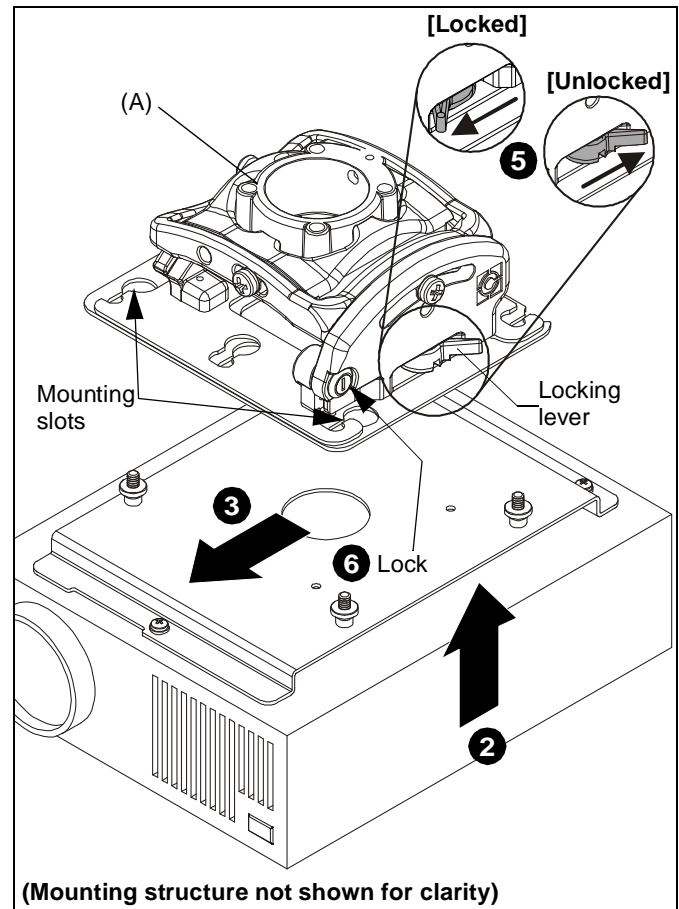

Figure 11
2. Lift projector so that screws with thumb nuts are aligned with mounting slots in mount base. (See Figure 11)
5. Move locking lever to "LOCKED" position. (See Figure 11)